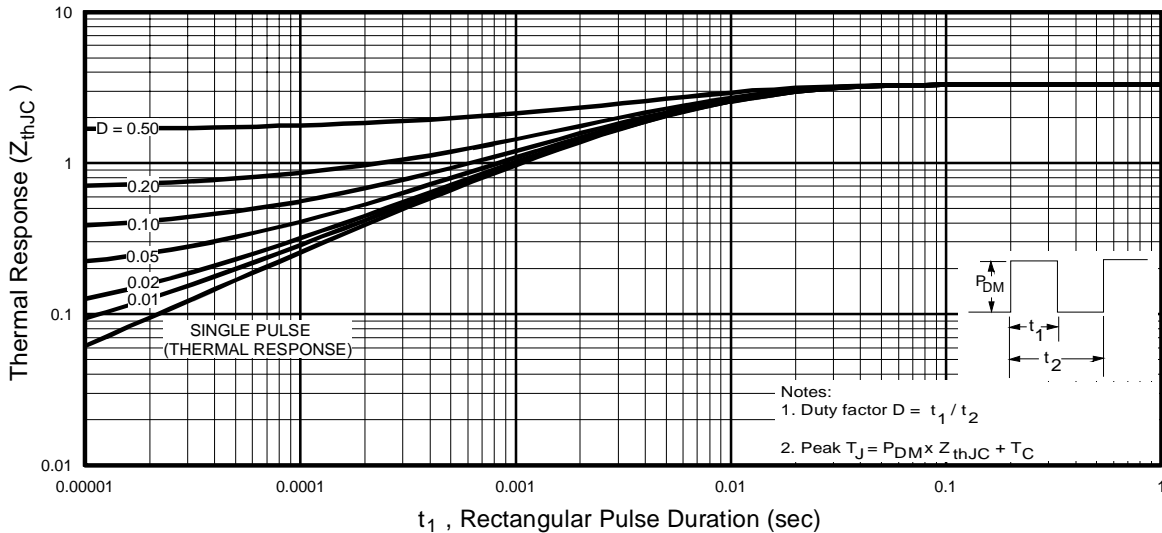

Fig 11. Maximum Effective Transient Thermal Impedance, Junction-to-Case
- ① Repetitive rating; pulse width limited by max. junction temperature. (See fig. 11)
- ② V_{DD} = 25V, starting T_J = 25°C, L = 790μH